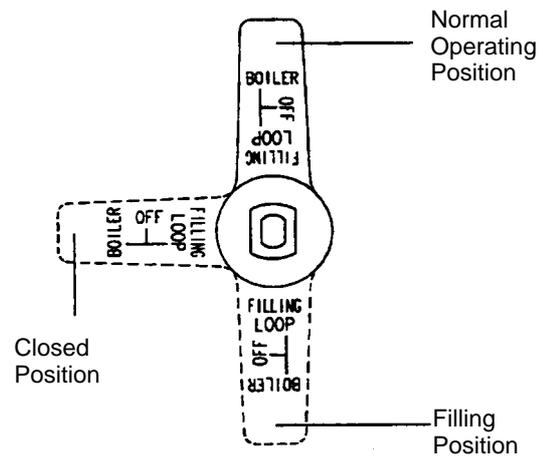

Fig. 20
The filling/inlet valve has 3 positions. (Fig. 20)
- 6.3.5.2** Turn filling/inlet valve to the normal operating position (vertically up). See fig. 20